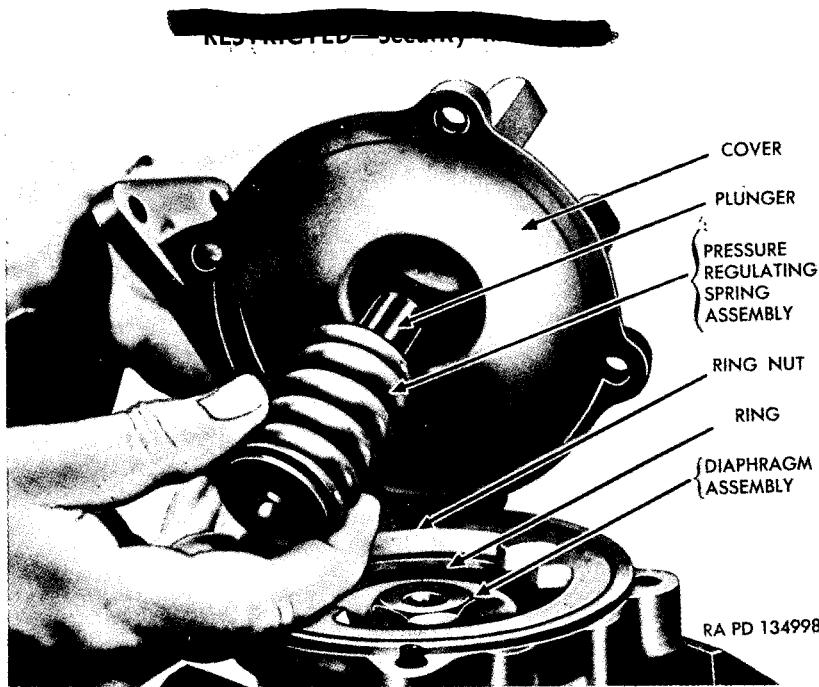

Figure 77. Removing cover.
77). Lift out pressure-regulating spring assembly and plunger from cover (figs. 77 and 85). Do not disassemble pressure-regulating spring assembly (par. 63b(5)).